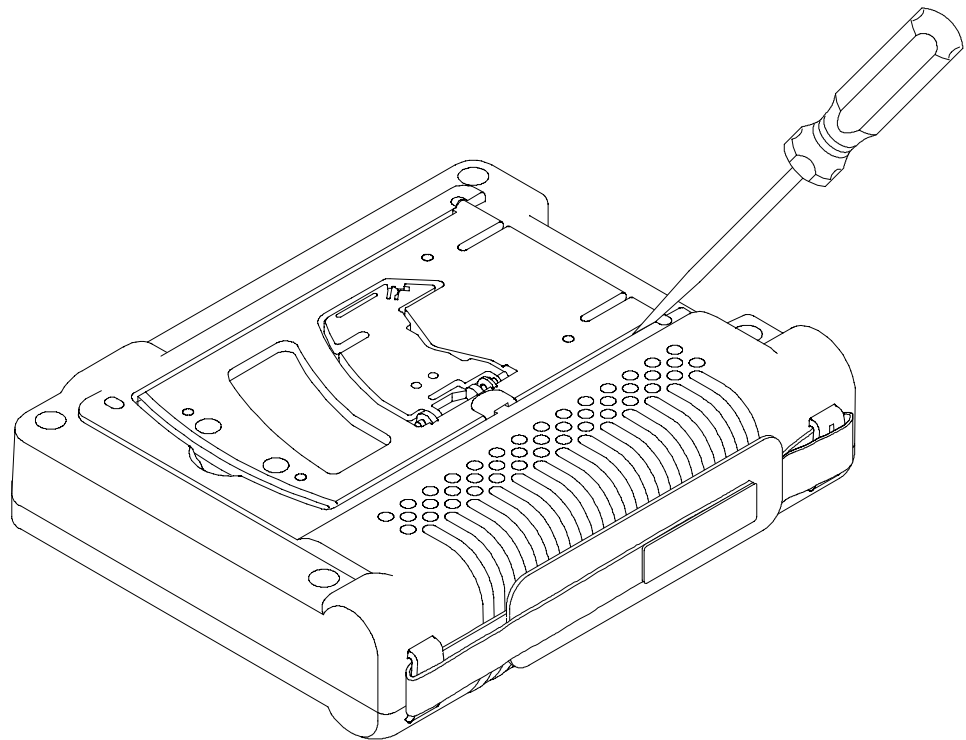

Figure 11: Removing the tilt stand
2. Insert the $\frac{1}{4}$ inch flat-bladed screwdriver into the gap between the tilt stand and instrument case as shown in Figure 11.